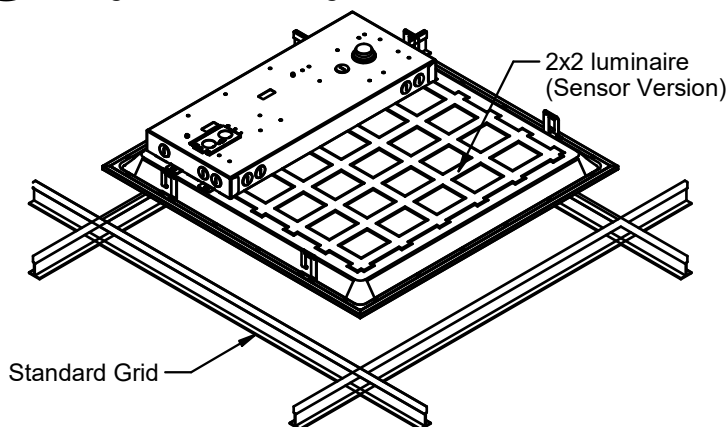
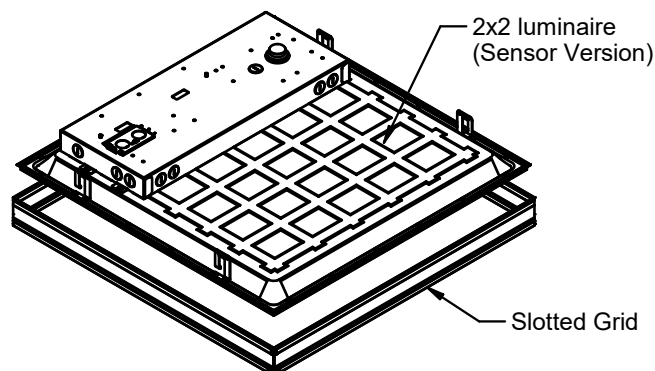
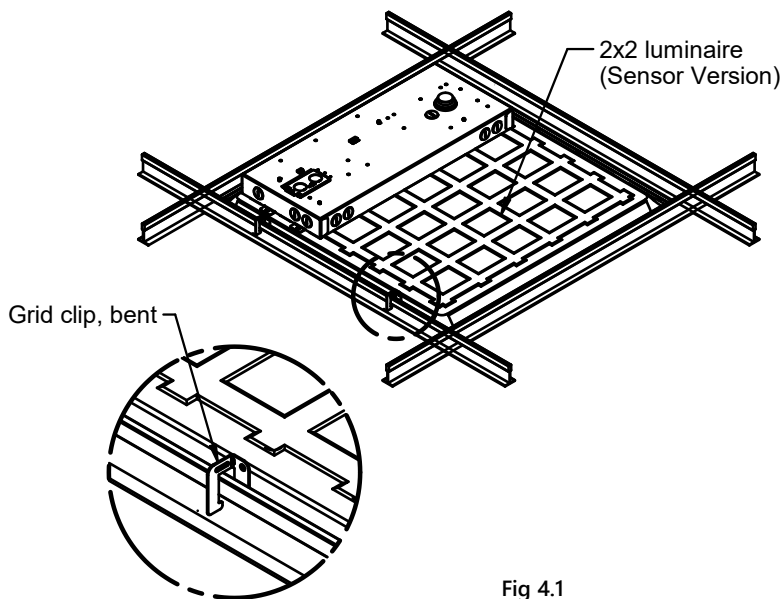
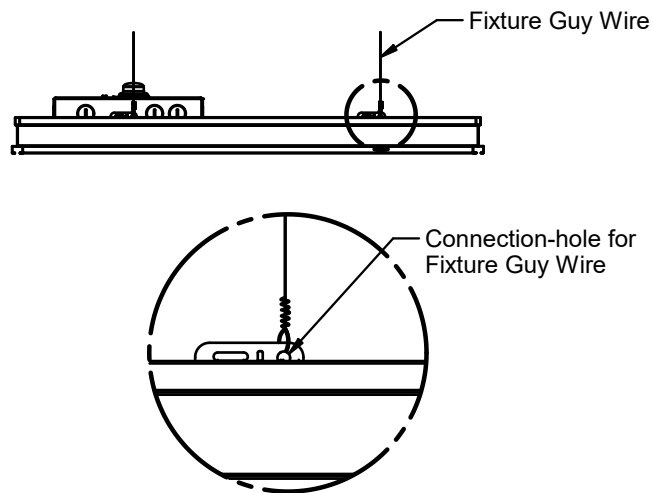

Fig 2.1
Fig 2.2
Fig 4.1
Fig 4.2
- 2 The fixture will be installed by lifting it into the plenum and positioning it between the standard grid (Fig 2.1) or slotted grid (Fig 2.2), with its edge resting on the back of the grid.
For the standard grid (Fig 2.1), bend the grid clips to secure the luminaire in place (Fig 4.1).
For the slotted grid (Fig 2.2), support the fixture to the building structure using a fixture guy wire through the connection holes (Fig 4.2).